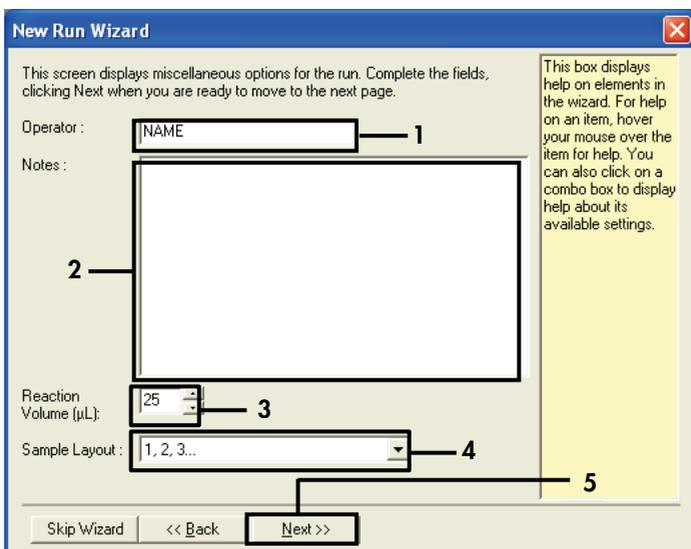

Figure 34. The “New Run Wizard” option screen. 1 = “Operator”; 2 = “Notes” field; 3 = “Reaction Volume”; 4 = “Sample Layout” field; 5 = “Next.”
3. Enter the name of the operator. Add any notes, verify that the reaction volume is set to **25** and the **Sample Layout** field contains the value **1, 2, 3...** Click **Next** (Figure 34).